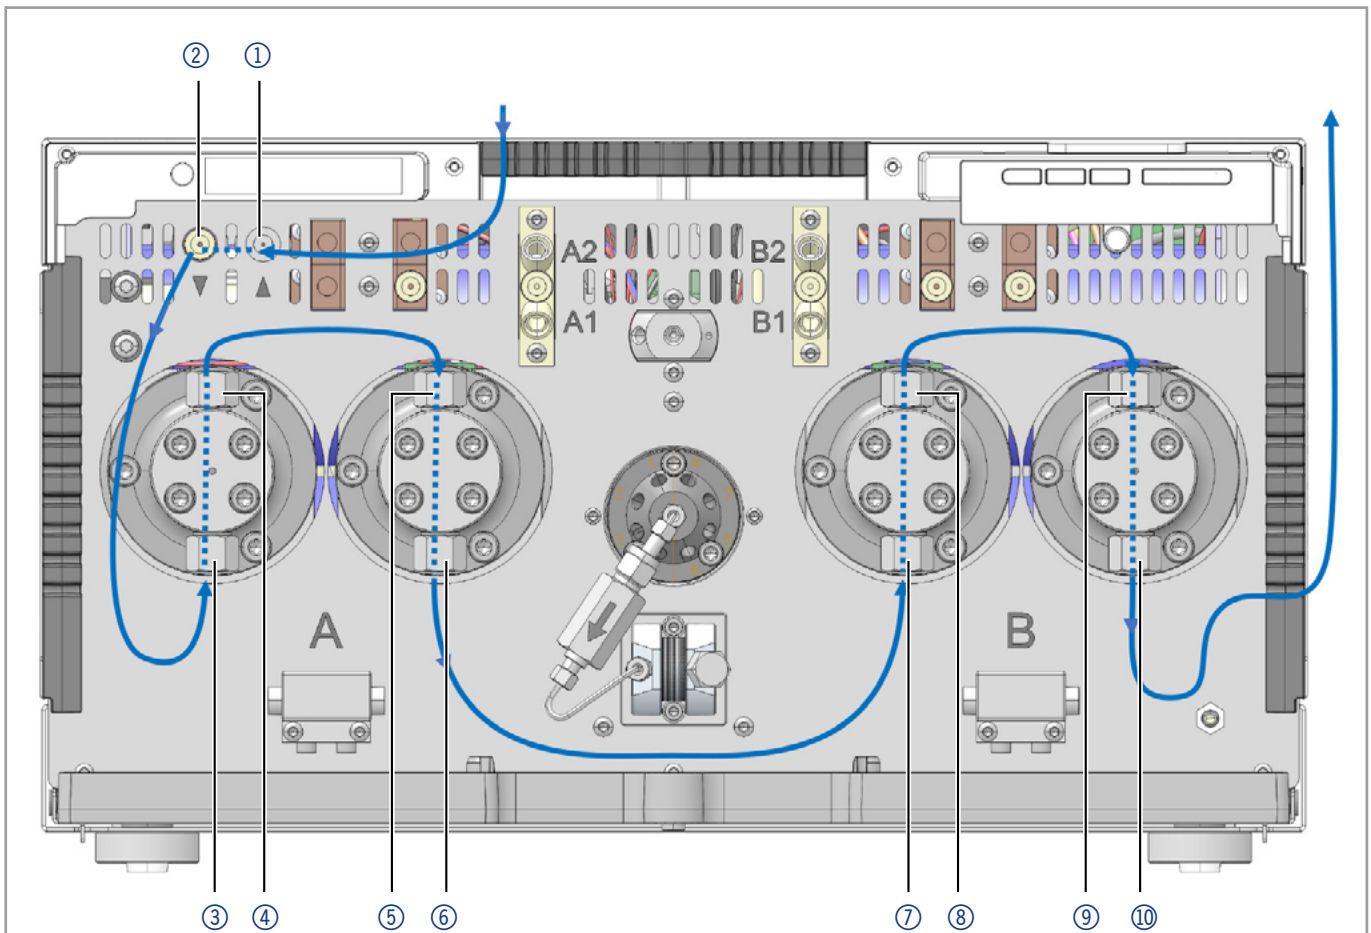

Fig. 10 Connection piston backflushing
1. Screw a FEP tube with UNF 1/4-28 flat bottom fitting into the flush pump inlet ① (refer to Fig. 10) Lead a tube to the solution bottle.
2. Attach another FEP tube with UNF 1/4-28 flat bottom fitting on the outlet of the flush pump ② . Then screw the end of the FEP tube with a conic 10-32 fitting from below into the lower bushing left-hand part of the pump head A ③ .
3. Connect the left part of the pump head A at the top ④ via a FEP tube to the top of the right part of the pump head A ⑤ . Use conical 10-32 fittings for this procedure.
4. Connect the right part of the pump head A at the bottom ⑥ with an FEP hose to the bottom of the left part of the pump head B ⑦ . Use conical 10-32 fittings for this procedure.
5. Connect the left part of the pump head A at the top ⑧ via an FEP tube to the top of the right part of the pump head A ⑨ . Use conical 10-32 fittings for this procedure.
6. Connect a FEP tube with a conical 10-32 fitting at the bottom of the right part of the pump head B ⑩ . Lead the end of the tube back to the flushing solution bottle.